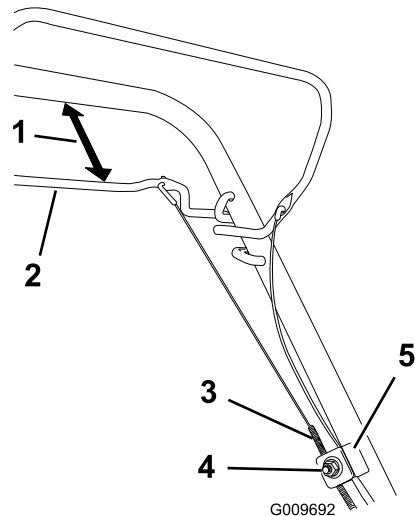

Figure 48
1. Loosen the cable support nut (Figure 48).
2. Hold the self-propel bail 1 to 1-1/2 inches (25 to 38 mm) from the handle (Figure 48).
3. Pull down the cable jacket (toward the machine) until there is no slack in the cable (Figure 48).